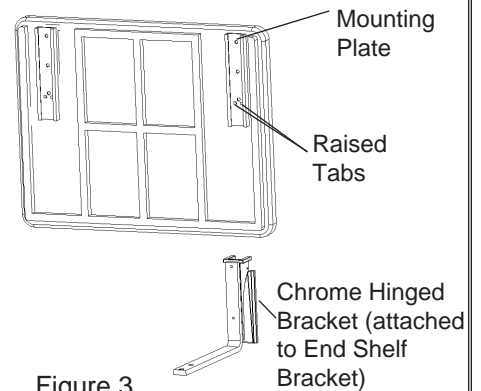

Figure 3
Step 6: With Food Bar upright, hold End Shelf above End Shelf Bracket. Mounting Plate on back of Tray Slide should be **closer to the top** with the raised tabs on the mounting plate **toward the bottom** (see Figure 3).